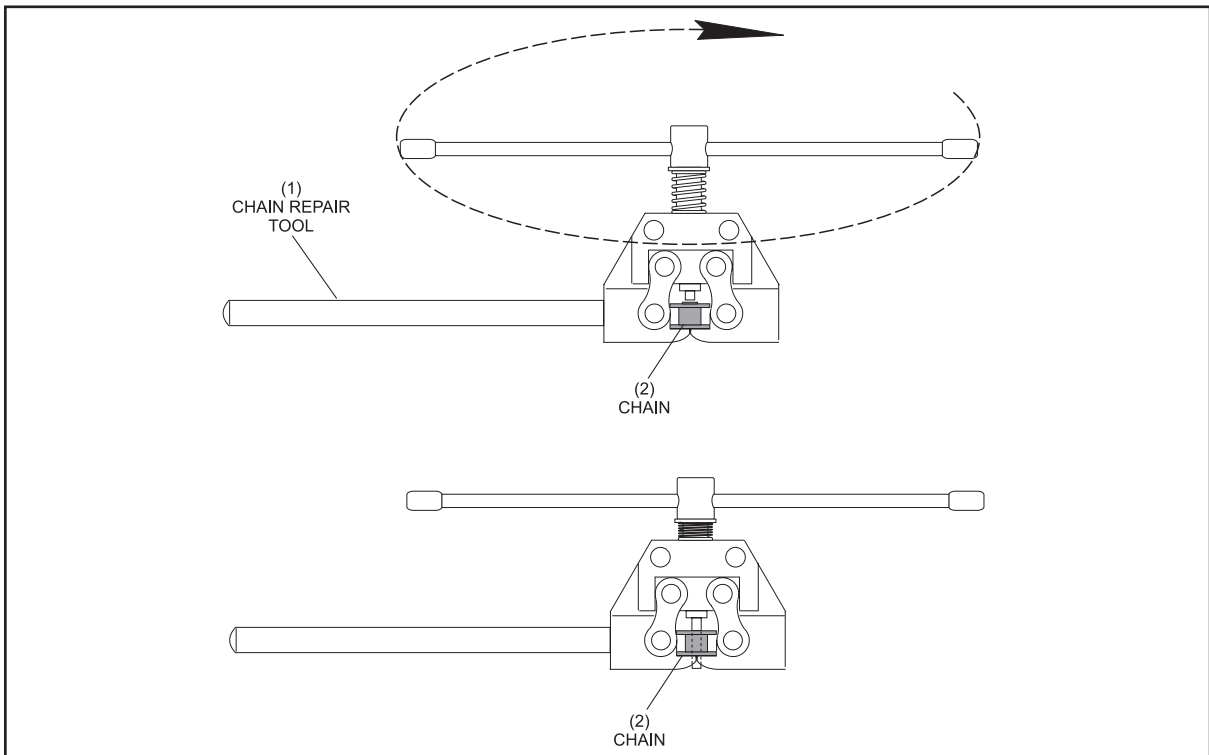

Figure 8-14. Chain Repair Using Vice
2. Install the chain repair tool in a vise as illustrated in *Figure 8-14*.